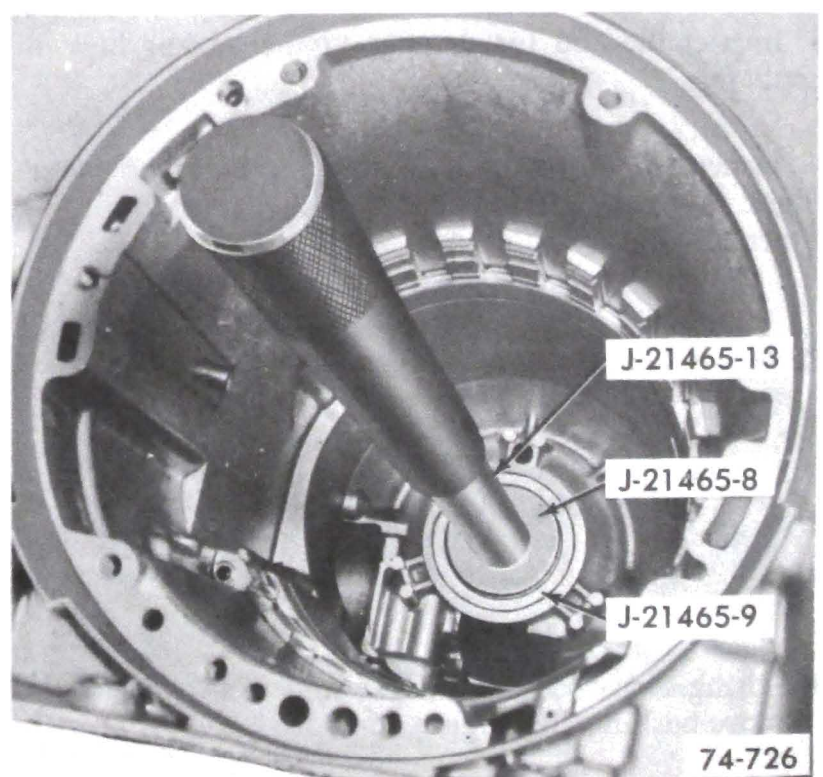

Figure 76-233
b. Using Adapter J-21465-9 on J-21465-8 driver handle and extension J-21465-13, with lube passage facing front of transmission case, install new bushing into case, until .040" - .055" above selective thrust washer face. See Figure 76-233.